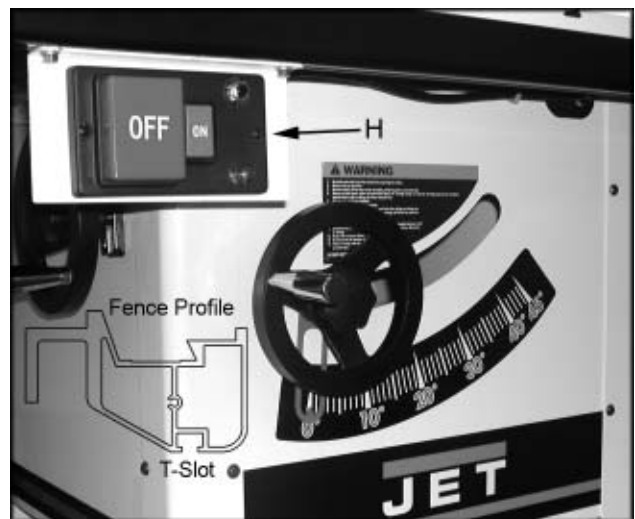

Fig. 5
- **Hardware:** (2) M6 Hex Nuts, (2) M6 Flat Washers, (2) M6x10 Hex Socket Button Screws
1. Slide heads of the two bolts into the t-slot of the fence, Figure 5.
2. Attach switch assembly (H, Fig. 5) to the bolts with two flat washers and two hex nuts.